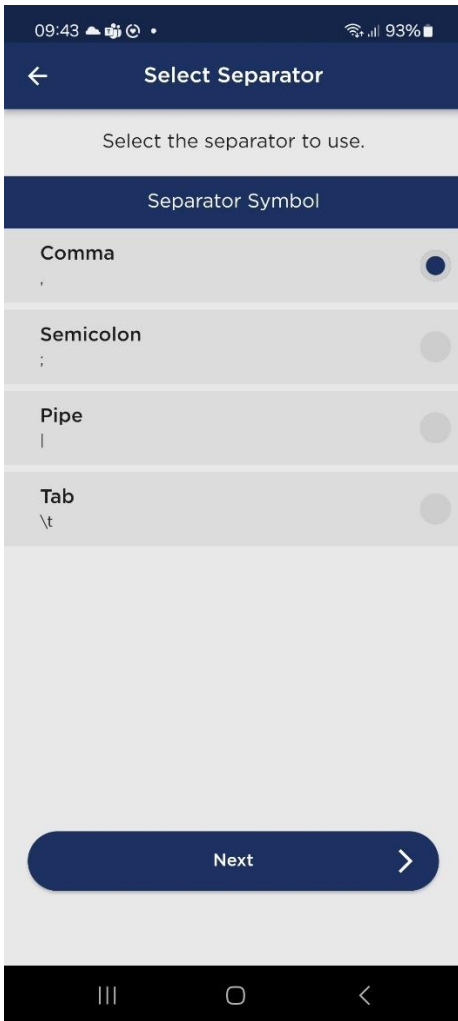

Figure 8-16: The *Select Separator* page where you can select the separator to be used by the CSV and TXT export formats. The default is the comma separator.
- Choose the separator character for CSV and TXT exports on the Select Separator page (see Figure 8-16). The options include comma (,), semicolon (;), pipe (|) and tab (\t). The default separator is the comma. This selection ensures your exported data is correctly parsed and compatible with your analysis tools.